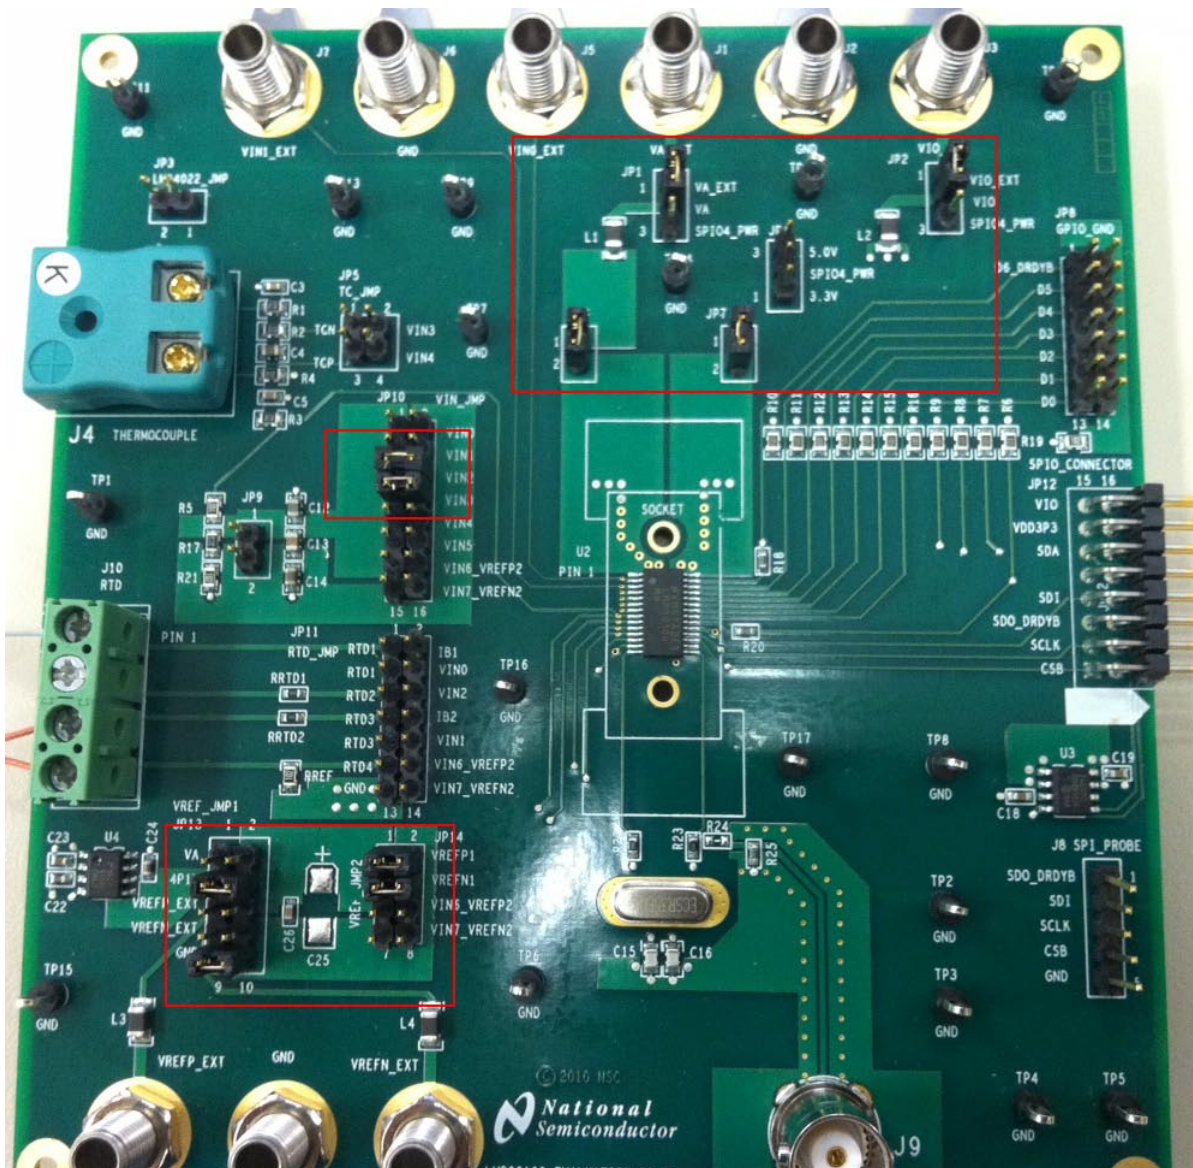

Figure 3 – Jumper Settings (Default) for the DC Test
1. The jumpers for this example application can be seen in Figure 3 and Table 1. Jumpers not shown can be left unpopulated.